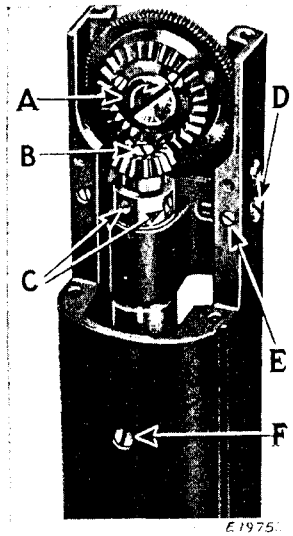

Fig. 29
The height of the feed wheel is regulated by adjusting the eccentric stud (D, Fig. 29). To raise or lower the feed wheel,
loosen the set screws (E and F, Fig. 29) and turn the eccentric stud (D, Fig. 29) to right or left until the feed wheel is at the desired height, then securely tighten the set screws (E and F).
Remove feed wheel cover and throat plate. Loosen the two set screws (C, Fig. 29) in the pinion gear, then remove the screw studs (A and B, Fig. 29), the screw (A) being right hand and the screw (B) left hand. The pinion and feed wheel may then be removed.